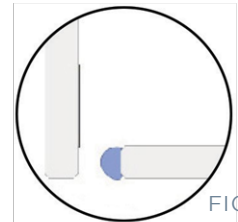

FIG.11
- Run a continuous bead of silicon down entire length of 10mm face of installed wall to glass panel and across floor channel to the width of the glass to glass panel (FIG 11).